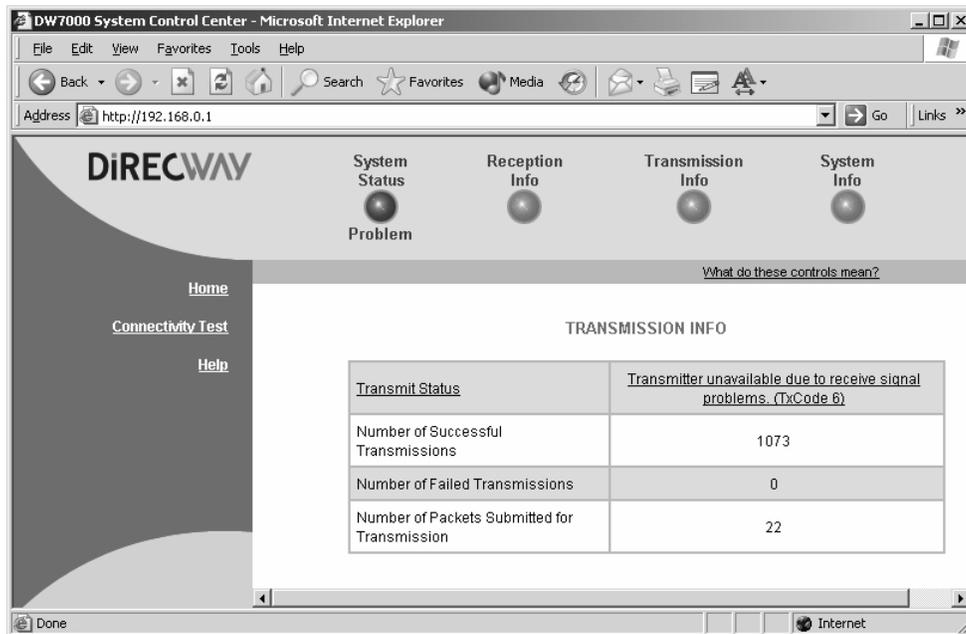

Figure 83: Transmission info
1. At the System Control Center, click the **Transmission Info** indicator. The Transmission Information page appears. See Figure 83.
Note: The transmit code shown in Figure 83 is an example for illustrative purposes only.